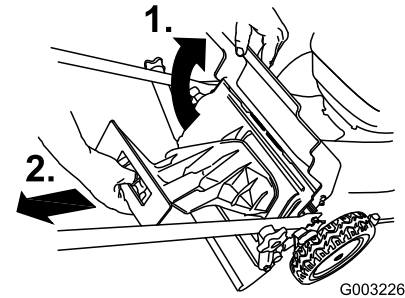

Figure 23
1. Raise and hold up the rear door (Figure 23).
2. Remove the rear discharge plug (Figure 23).